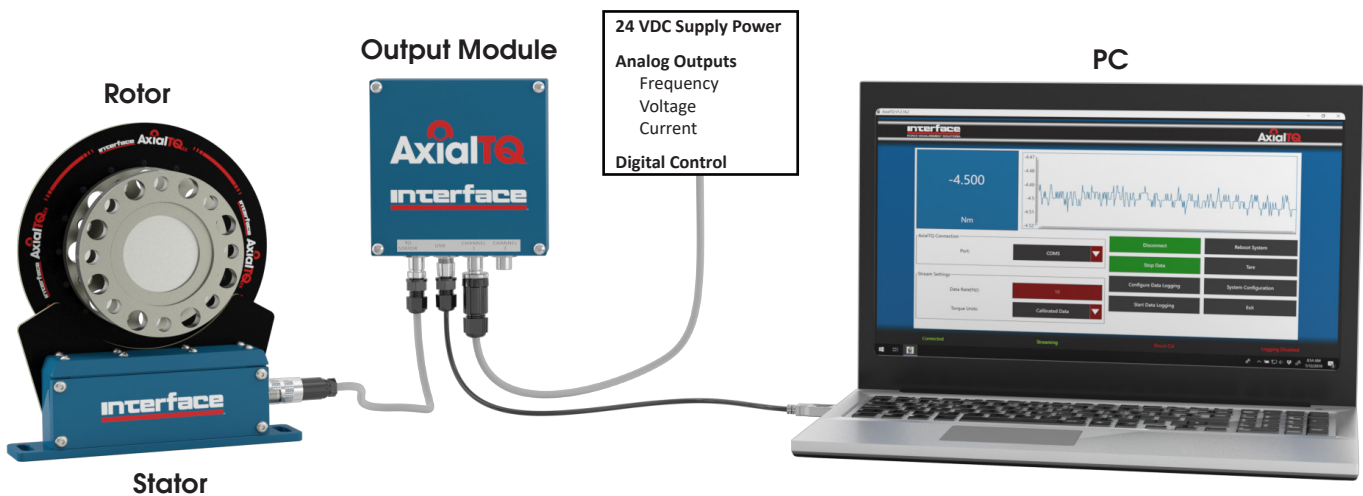

Figure 1
3.1 The AxialTQ torque flange measures static and dynamic torques on stationary and rotating shafts. Test beds can be extremely compact because of the compact design of the transducer. This offers a very wide range of applications. See *Figure 1*.